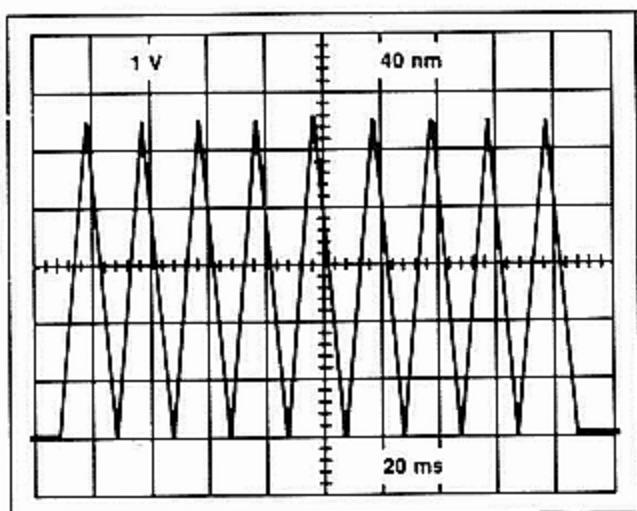

Fig. 9. Test oscilloscope display showing waveform at pin 1 of Plug P1 in RSS External Normalizer.
④
d. CHECK—Oscilloscope display for sawtooth waveform 5.5 volts, +3% in amplitude. See Fig. 9.